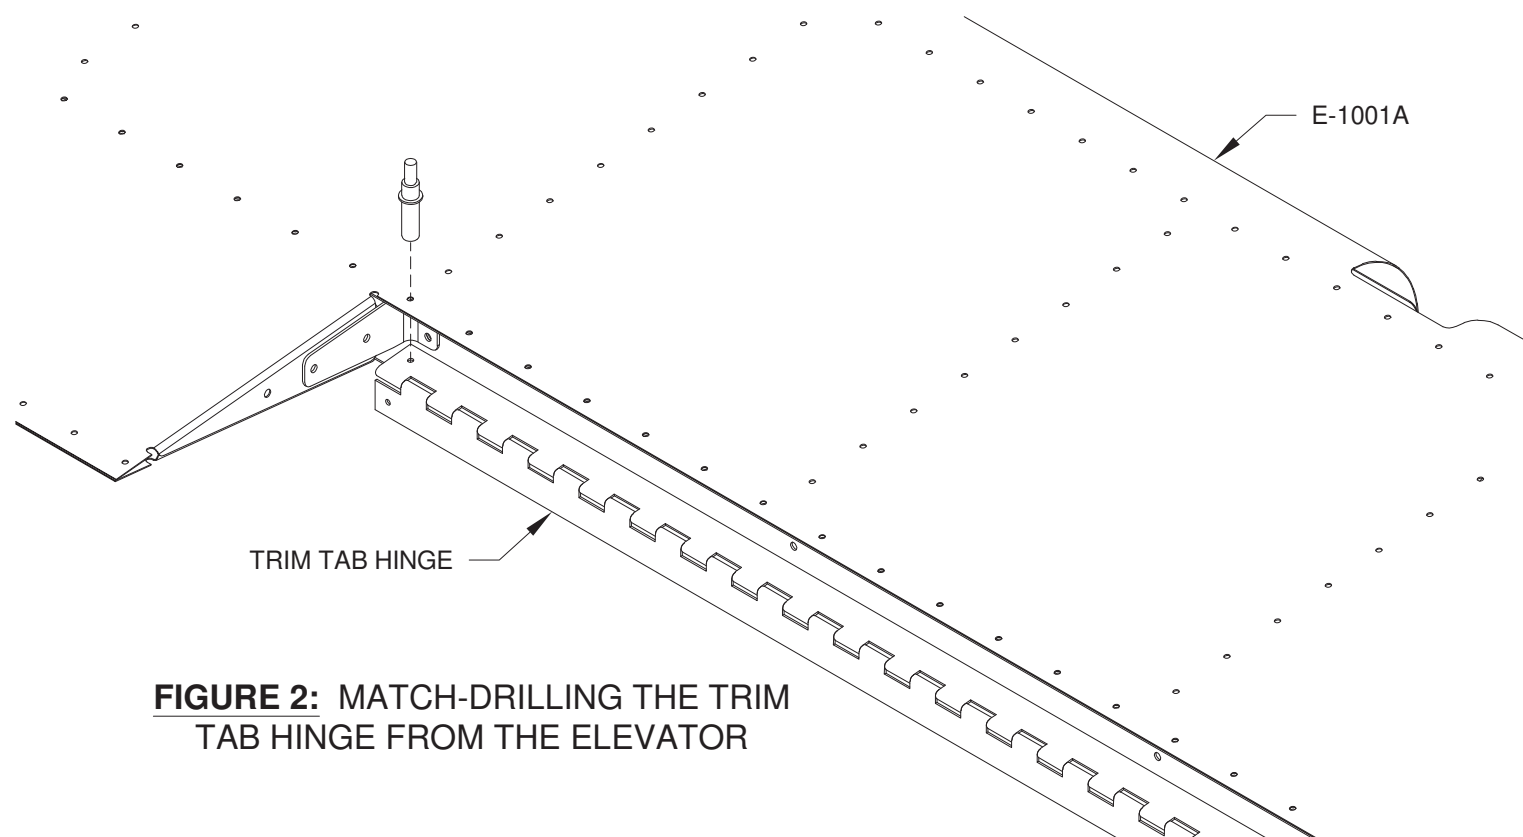

FIGURE 2: MATCH-DRILLING THE TRIM TAB HINGE FROM THE ELEVATOR
Step 3: Using one of the holes just drilled in the trim tab hinge, cleco the hinge to the elevator as shown in Figure 2.